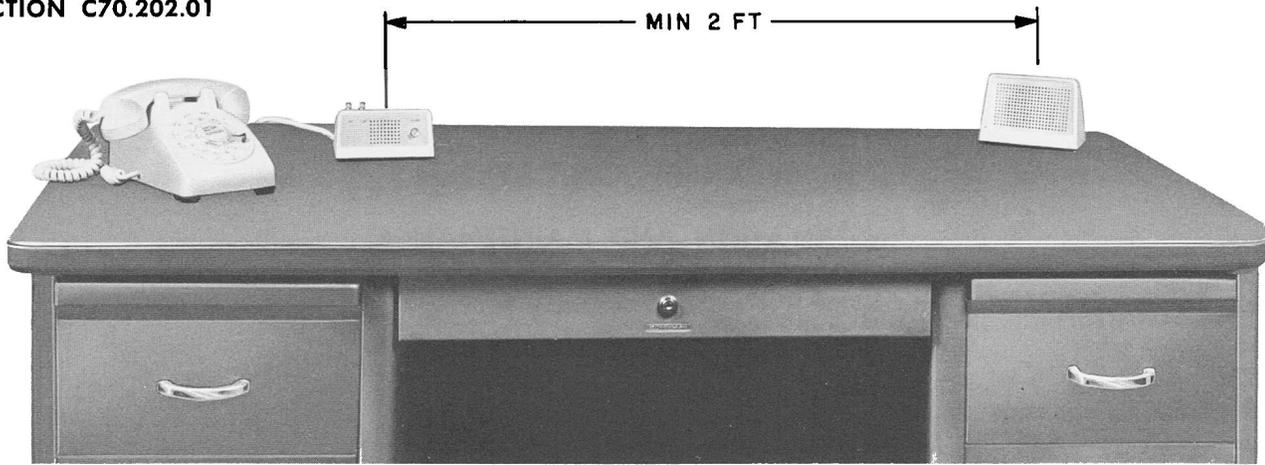

Fig. 1 – 3A Speakerphone System Installation and Maintenance
- Replace Fig. 1.
1.03 Fig. 1 shows a typical installation.